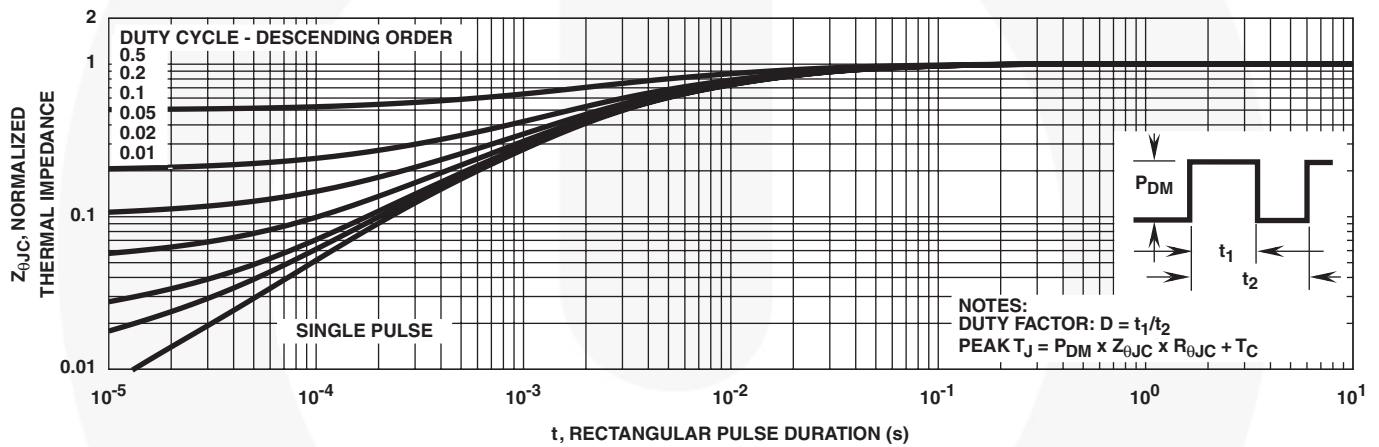

FIGURE 3. NORMALIZED TRANSIENT THERMAL IMPEDANCE
3. Repetitive Rating: Pulse Width limited by max junction temperature. See Transient Thermal Impedance Curve (Figure 3) and Peak Current Capability Curve (Figure 5).